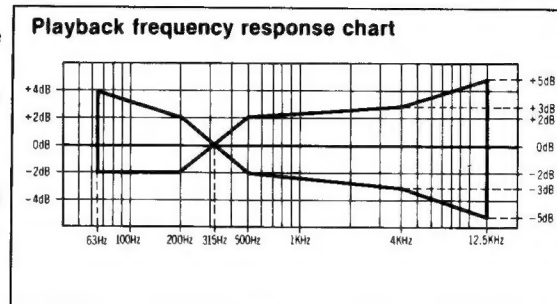

Fig. 8
5. Make sure that the measured values are within the range specified in the frequency response chart. (Shown in fig. 8).